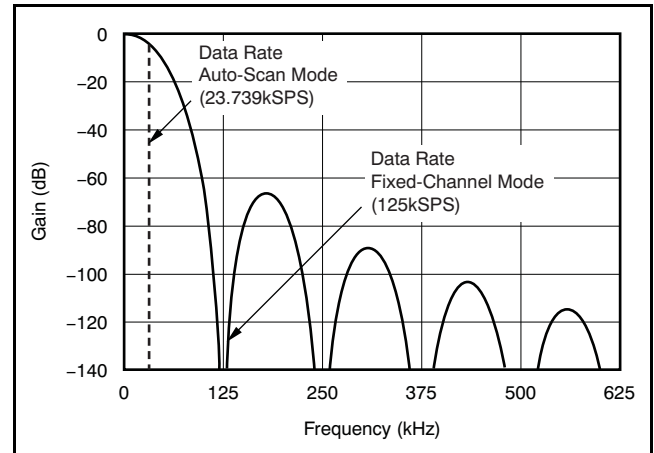
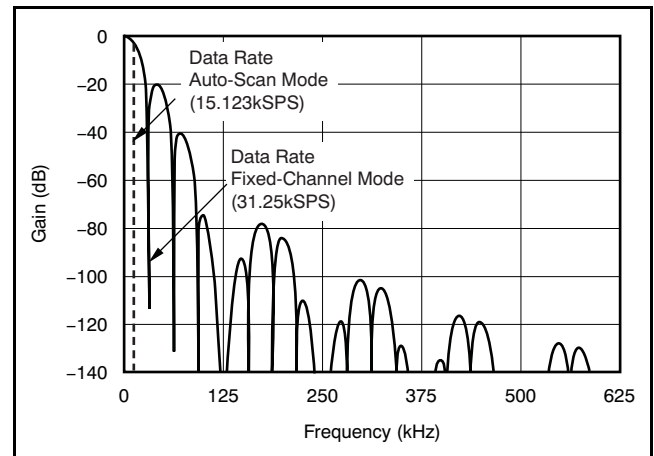

Figure 29. Frequency Response, DRATE[1:0] = 11
Figure 30. Frequency Response, DRATE[1:0] = 10
The low-pass filter has notches (or zeros) at the data output rate and multiples thereof. The sinc^5 part of the filter produces wide notches at $f_{CLK}/128$ and multiples thereof. At these frequencies, the filter has zero gain. Figure 29 shows the response with no post averaging. Note that in Auto-Scan mode, the data rate is reduced while retaining the same frequency response as in Fixed-Channel mode.
Figure 30 shows the response with averaging set to 4 (DRATE[1:0] = 10). 4-reading, post-averaging produces three equally-spaced notches between each main notch of the sinc^5 filter. The frequency response of DRATE[1:0] = 01 and 00 follows a similar pattern, but with 15 and 63 equally-spaced notches between the main sinc^5 notches, respectively.
(2) Num_Ave is the number of averages performed by the digital filter second stage.
(3) In Auto-Scan mode, the data rate listed is for a single channel; the effective data rate for multiple channels (on a per-channel basis) is the value shown in Figure 29 and Figure 30 divided by the number of active channels in a scan loop.
Referring to Figure 29 and Figure 30, frequencies present on the analog input above the Nyquist rate (sample rate/2) are first attenuated by the digital filter and then aliased into the passband.